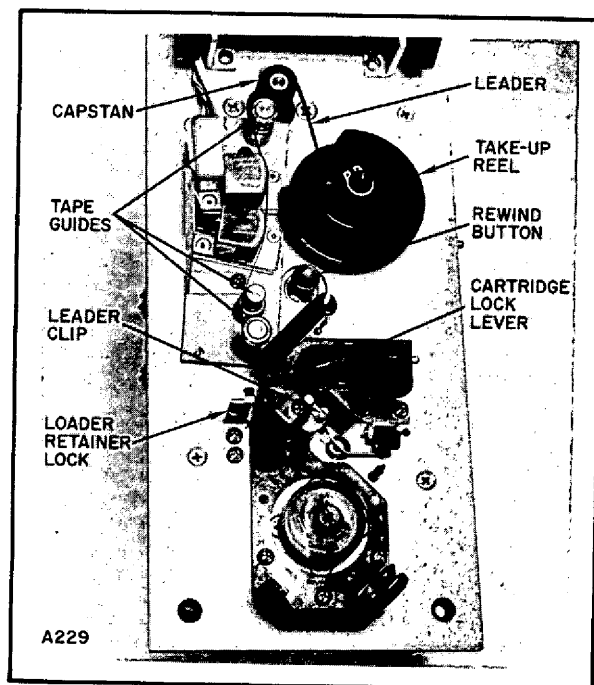

Fig. 4-2. Series 1500 Tape Drive
- (3) Now that the loader is in the upright position, take time to become familiar with the various components on the tape drive, as shown in figure 4-2. Note the threading path of the leader.